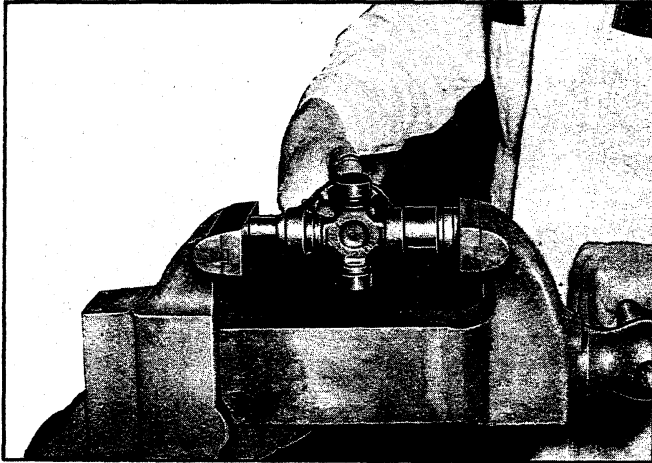

Fig. 103—Removing Bearing Caps
3. Using a suitable socket or rod, press trunnion down far enough to drive bearing cup from yoke (fig. 103).